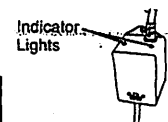

FIGURE 7
- Once power is activated you can check the ballast (12), Figure 7, to see if the **CLEARRAY** System is functioning. A solid green light indicates that the **CLEARRAY** System is being provided power and should always be on. A solid red light indicates that UV lamp is activated.